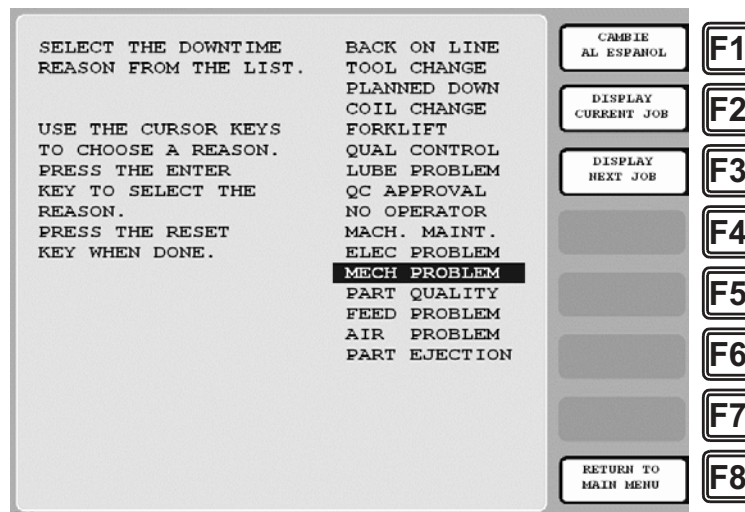
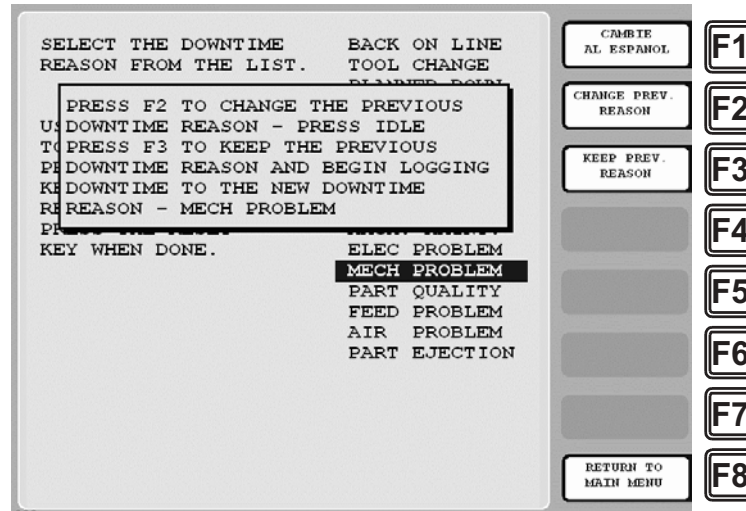

Figure 9. Dialog Menu
Figure 10. Dialog Menu with F2/F3 Option Window Displayed
1. Press RESET to clear the message. The Dialog Menu (see Figure 9) displays.
2. Highlight the downtime reason you want (in Figure 9, MECH PROBLEM is selected as an example), using the Up (▲) or Down (▼) cursor key, and press ENTER. The window shown in Figure 10, page 15 displays.
2. On the Dialog Menu, highlight the downtime reason you want, using the Up (▲) or Down (▼) cursor key, and press ENTER. The window shown in Figure 10 displays.